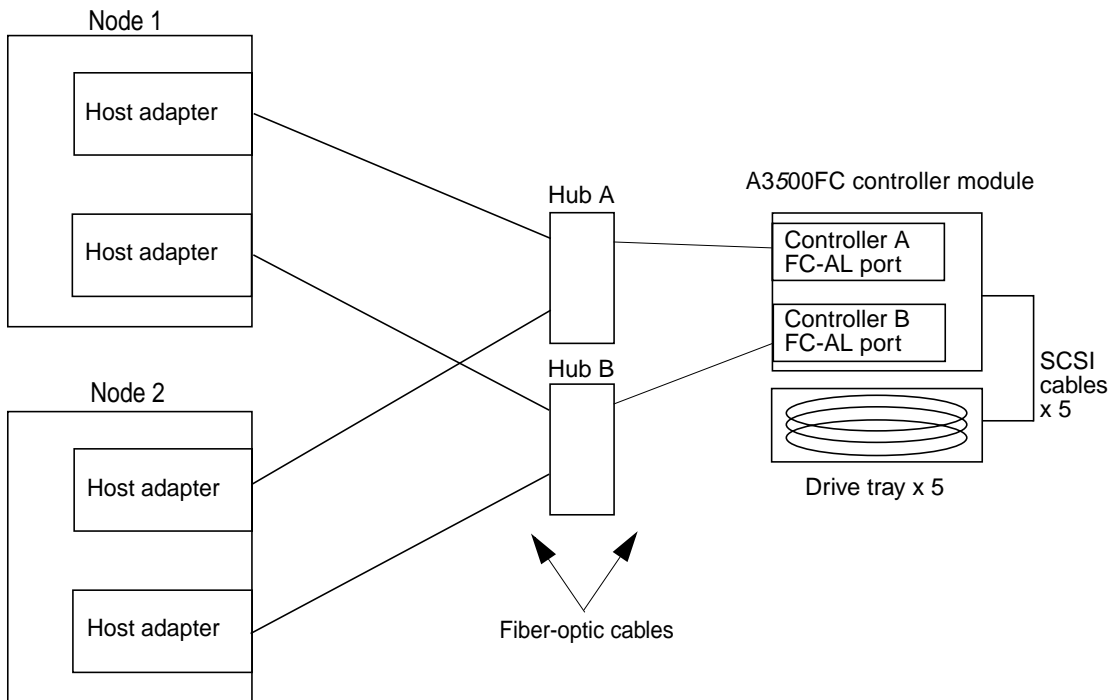

FIGURE A-5 Sample StorEdge A3500FC Cabling (2nd Node Attached)
- If you are installing a StorEdge A3500FC controller module, see FIGURE A-5 for a sample StorEdge A3500FC cabling connection. The example shows two nodes connected to a StorEdge A3500FC controller module.